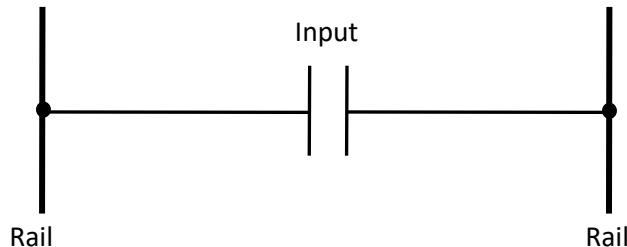
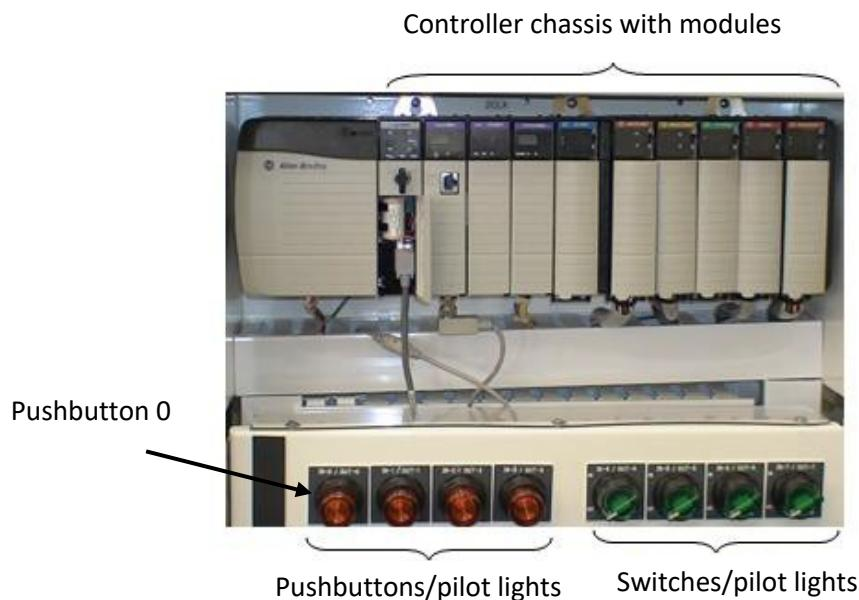

Figure 4-6 Ladder logic
FIGURE 4-7 ControlLogix® 5550 modules and control panel
Overview: The ladder diagram in Figure 4-6 is a Normally Open (N.O.) Input that is to be controlled by pushbutton 0 on the Rockwell cart's Control Panel of Figure 4-7. Pressing **pushbutton 0** will close the input and complete the current path between the rails. Releasing the pushbutton will break the path.
4. The resulting ladder diagram is depicted in Figure 4-6.